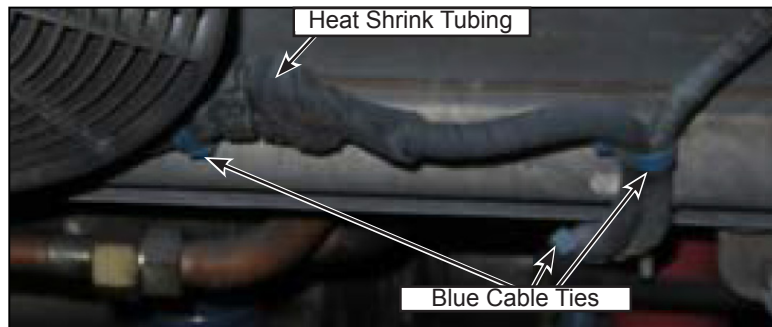

Figure 4 - Cut Cable Ties **at Delphi Connectors and** on Harness Side Wiring and Remove Heat Shrink Tubing on Delphi Connectors
- 1.10. Cut the two blue cable ties from the harness side wiring and one at the Delphi connectors (see figure 4).
- 1.11. Remove the heat shrink tubing and the Coroplast tape from the connectors (see figure 4) and then disconnect the connectors. To help removing the heat shrink tubing, trace a shallow line on the heat shrink tubing with a sharp cutting blade (X-ACTO tool or equivalent) and then, using a heat gun, heat the tubing until it splits.